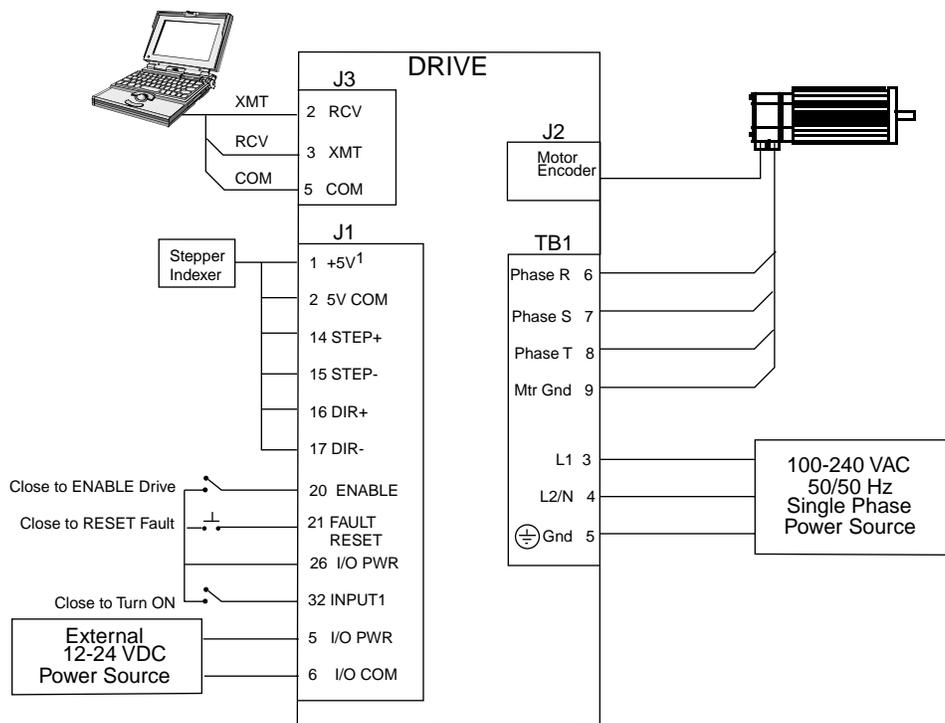

Figure 8.4 Position Follower (Step/Direction Controller) Connection Diagram
The drive can be electronically geared or driven by *Step and Direction* signals typically used to control stepper drives. Make the connections below to setup the drive as a Position Follower in Velocity mode. Figure 8.4 depicts the minimum hardware necessary. Interfacing the drive to a controller requires similar output circuitry from the controller to J1. Instructions are provided to configure the drive with *Tol-O-Motion SSD* software.
Make the connections described below and shown in Figure 8.4.
4. Connect the Stepper Indexer to the drive as shown in Figure 8.4. The motor is controlled by the indexer commands.
These connections provide manual control for enabling or disabling the drive and resetting faults. Figure 8.4 shows the jumper, including normally open toggle switches.